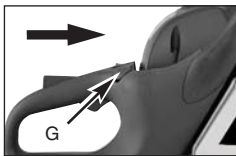

Abb. 9E
5. Push in the choke (G) as far it will go (Fig. 9E).